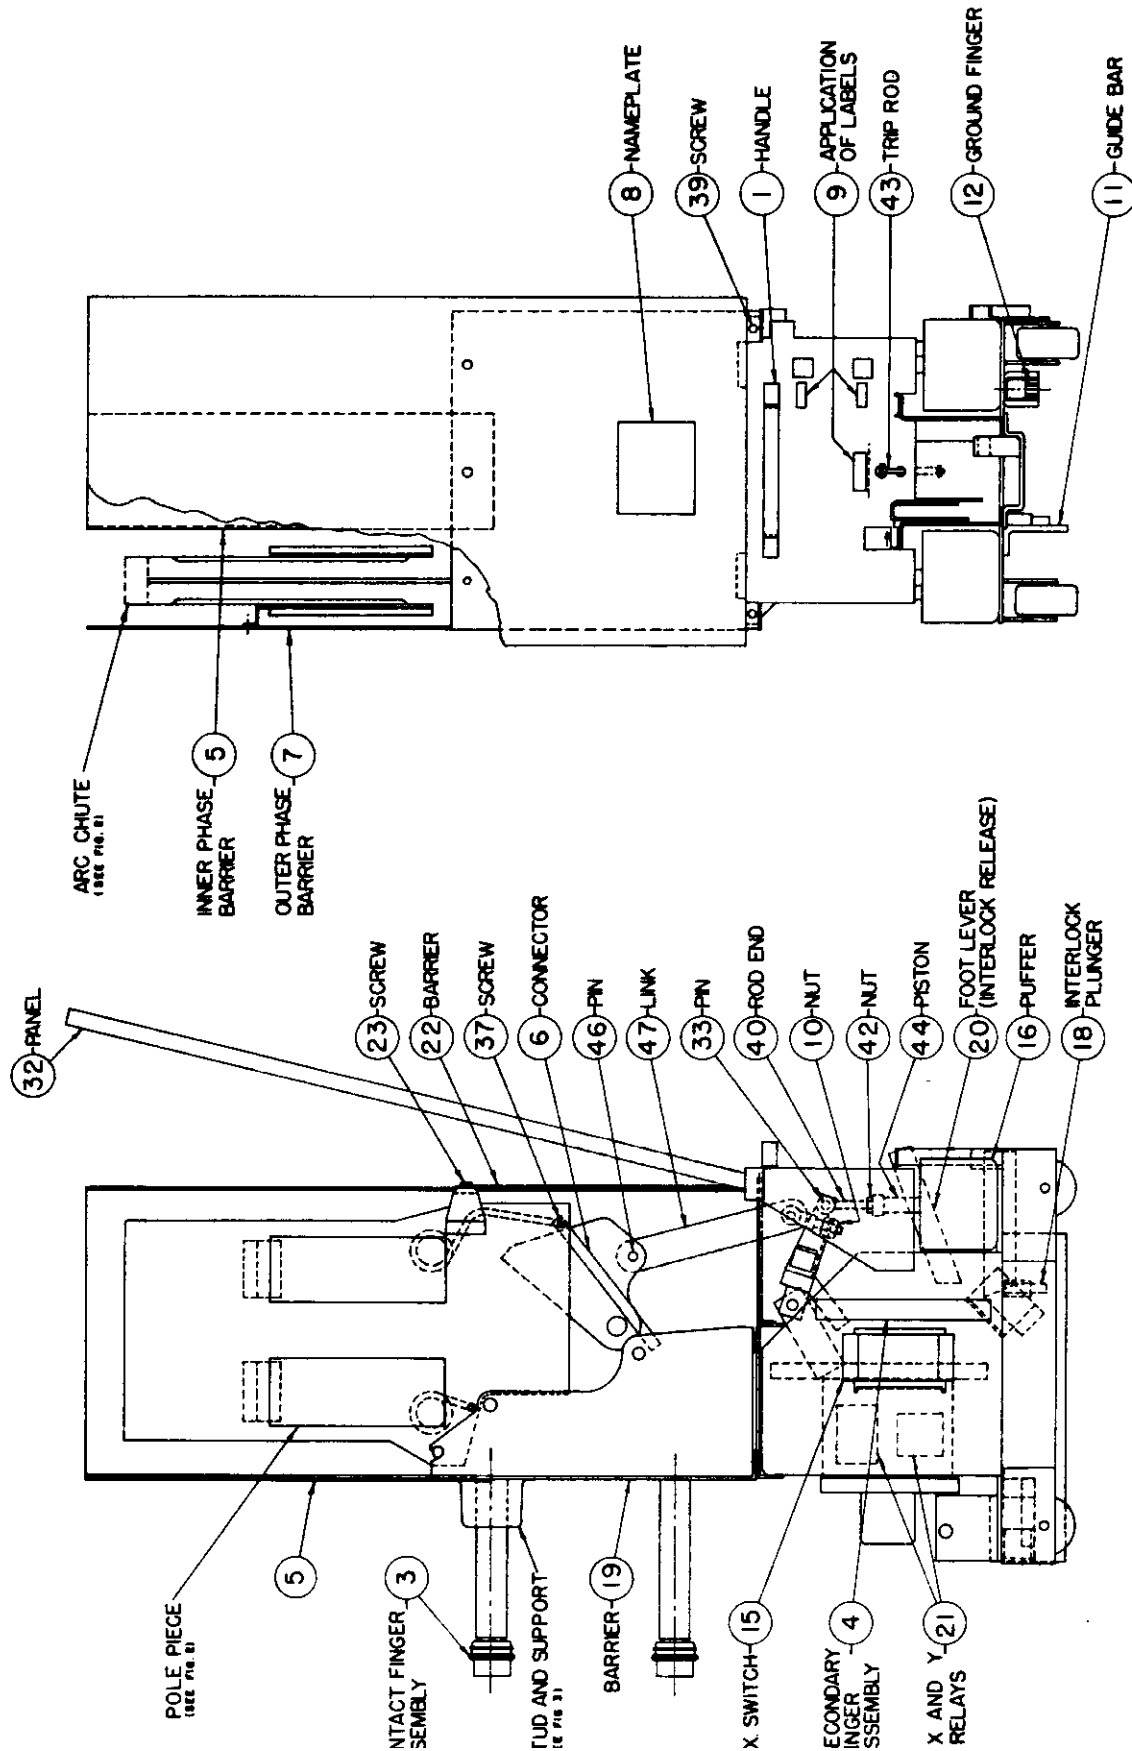

FIG. 1
6.3a PHASE BARRIERS (Fig.1)
6.3b TILTING ARC CHUTES (Fig. 1)
6.3c BARRIER STACKS (Fig. 1)